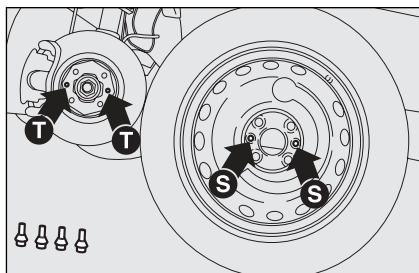

fig. 8
- ☐ install the space-saver spare wheel matching the holes **S**-fig. 8 with the corresponding pins **T**;
- ☐ Fit the normal wheel matching the holes **S**-fig. 8 with the corresponding pins **T**;